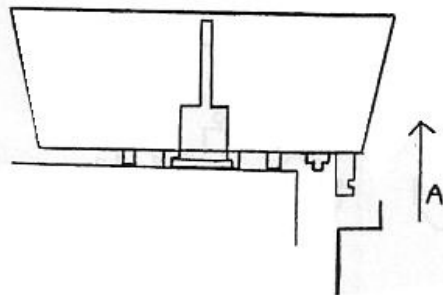
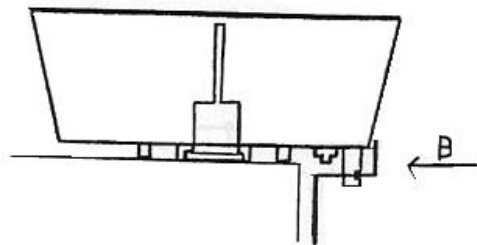

Fig. 3
Fig. 4
- 3 Fix the lever of the tap into the two plastic pins of the bowl (see Fig. 3 and Fig. 4)